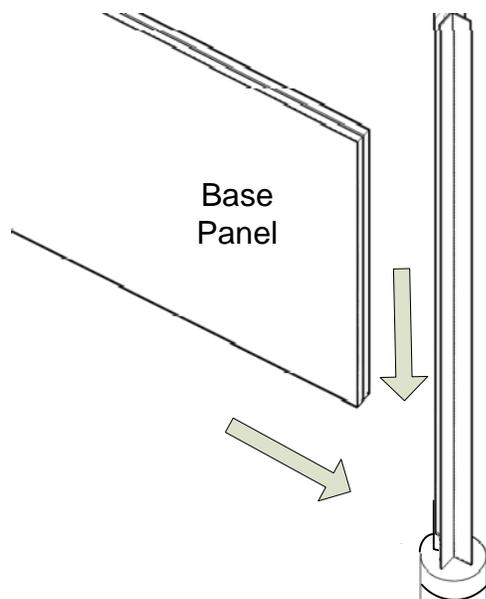

Figure 4
6. To begin first course of Wall, install Base Panel to first Post by sliding notch on end of Base Panel onto Post flange, aligned to face next adjoining Post (course/line). Rest Base Panel onto Footing Cap (Figure 4).